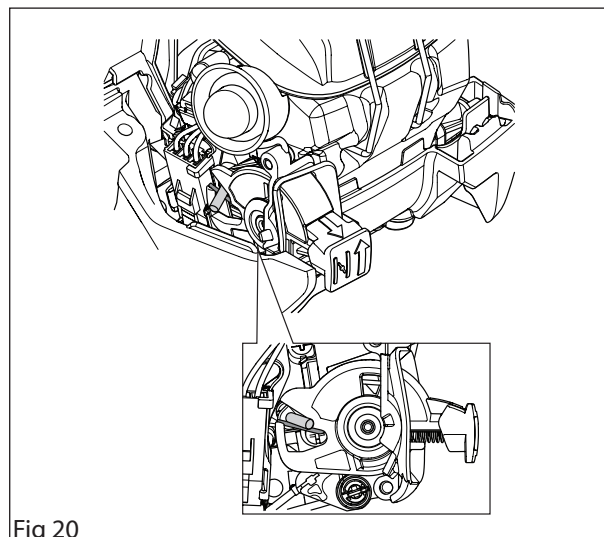

Fig 20
**CAUTION!** Make sure that the spring is fitted under the choke pin on the carburettor. See figure 20.